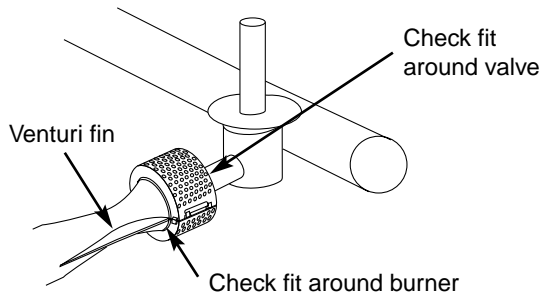

Figure 18
- i) Reinstall the Spider Stopper Guards. Slightly rotate the Spider Stopper Guards so that the seams are in line with the Venturi fins. There should be no gaps in the seams or in the fit around the burners and valves. Figure 18.